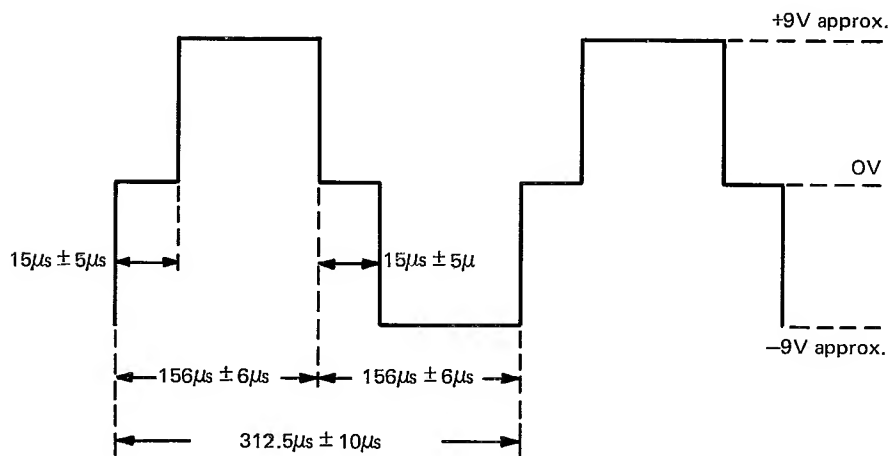

Fig. 5.3
6. Check that the Integrator switching waveform is within the limits shown (Fig. 5.3)